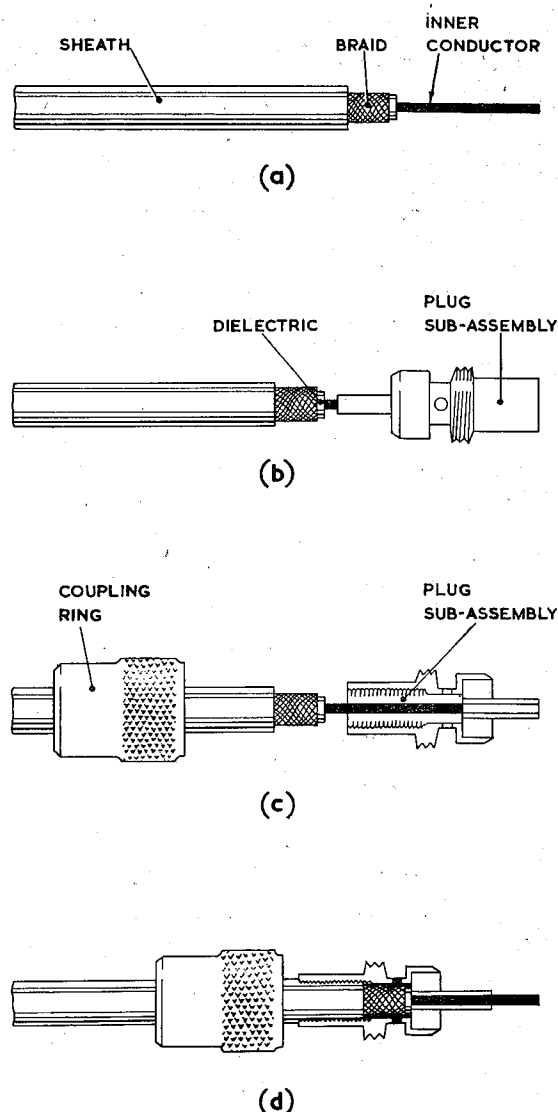

Fig. 4. Straight plug assembly for frequencies to 3600 Mc/s
18. After selecting the type of cable appropriate to the relevant connector, prepare the cable and assemble to the connector in accordance with fig. 4 and the following procedure:—
(1) Initially, prepare the cable as instructed in para. 17, sub-para. (1) to (7) inclusive.
(2) Lightly tin the exposed braid for a length of approximately $\frac{1}{8}$ in. from the end of the braid, taking care not to overheat or damage the dielectric (fig. 4 (a)).
(3) Remove the coupling ring from the body of the connector and slide it on to the cable and clear of the prepared end.
(4) Tin the inner conductor and offer the tinned end to the front end of the connector contact pin. Ensure that the inner conductor slides freely in to the contact pin (fig. 4 (b)).
(5) Insert the inner conductor in to the rear of the contact pin, through the rear of the connector body (fig. 4 (c)).
(6) Insert the cable fully in to the connector body, by screwing the body on to the cable sheath, until the cable dielectric is seated on to the connector insulation, as viewed through the two diametrically opposite holes in the neck of the connector body (fig. 4 (d)).
(7) Solder the braid to the connector body via the two holes in the neck of the connector, using a sharp pointed soldering iron. Take care that the dielectric is not damaged by overheating.
(8) Allow the cable and connector to cool down, without disturbance.
(9) Solder the contact pin to the inner conductor by applying heat to the front end of the contact pin. Take care that the connector insulation and the cable dielectric are not damaged by overheating.
(10) Slide the coupling plug down the cable and screw in on to the connector body.
19. After selecting the type of cable appropriate to the relevant connector, prepare the cable and assemble it to the connector in accordance with fig. 4 and the following procedure:—